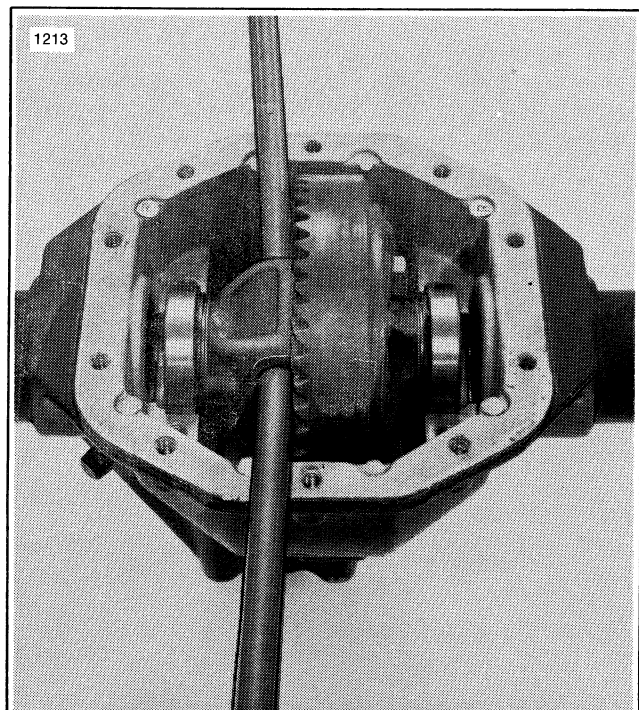

Figure 3-13. Prying Out Case
8. Pry differential case assembly (6) from carrier with two pry bars (Figure 3-13).